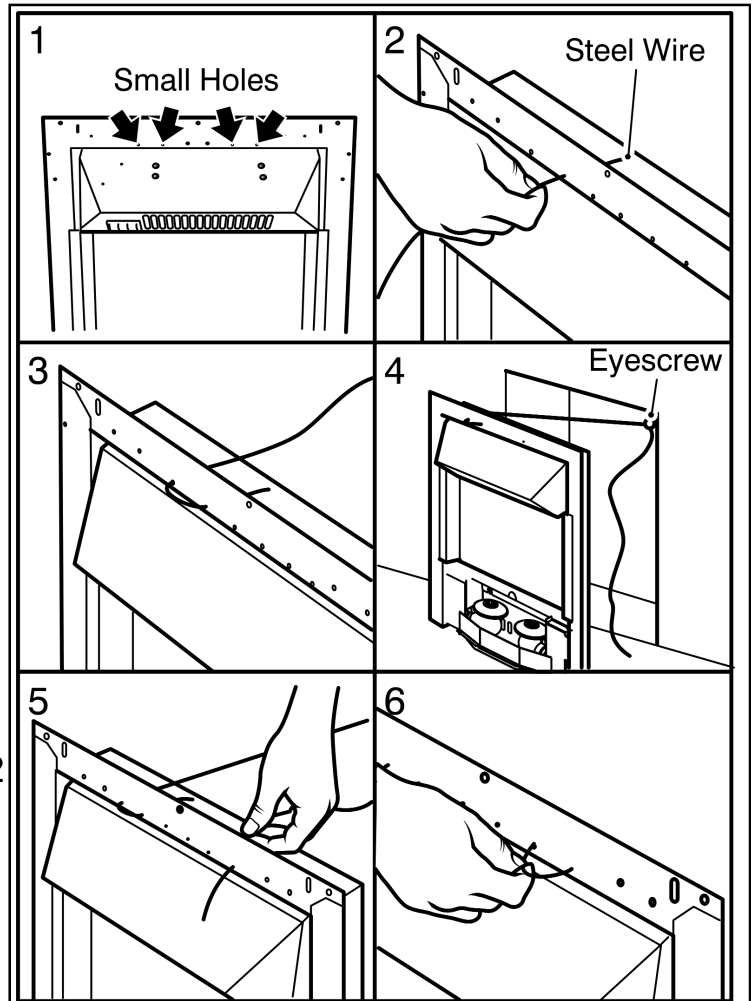

Figure 5. Steel wire fixing (The fuel effect may differ from that shown)
7. At the top of the heater there are four small holes, two each side of the heater (See figure 5- Item 1). From the front of the heater, thread about 50mm (2 inches) of the steel wire into the inside small hole on the left side of the heater (See figure 5 - item 2).
8. Thread the other end of the wire through the remaining small hole on the left hand side of the heater. Continue to push the wire through this hole until there is only a small loop of wire at the front of the heater (See figure 5 - item 3).
9. At the back of the heater there will be a long piece and a short piece of wire coming through the two holes. Hold the short piece and give the long piece a gentle tug. This will secure the steel wire. Take the long piece and thread this through the eyescrew in the back of the fireplace opening (See figure 5 - item 4).
10. From the back of the heater thread the long piece of steel wire through the outer small hole on the right hand side of the heater (See figure 5 - item 5).
11. Locate the heater in the fireplace opening, then from the front of the heater, gently pull the steel wire on the right hand side to gather up the excess until the heater is secure. Thread the wire through the remaining small hole to lock the wire and heater in place (See figure 5 - item 6).